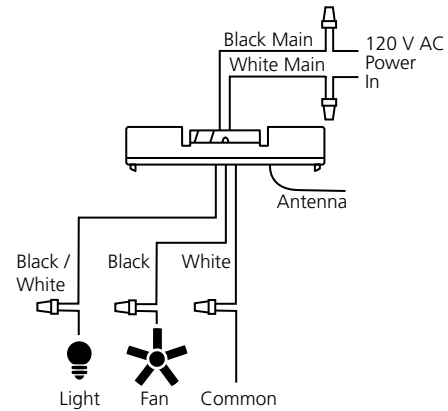

Figure 2 - Wiring Diagram
4. Use the 2 large wire nuts supplied to connect the receiver and house wiring, then use the 3 small wire nuts supplied to connect the receiver and ceiling fan wiring. Refer to the Wiring Diagram in Figure 2.